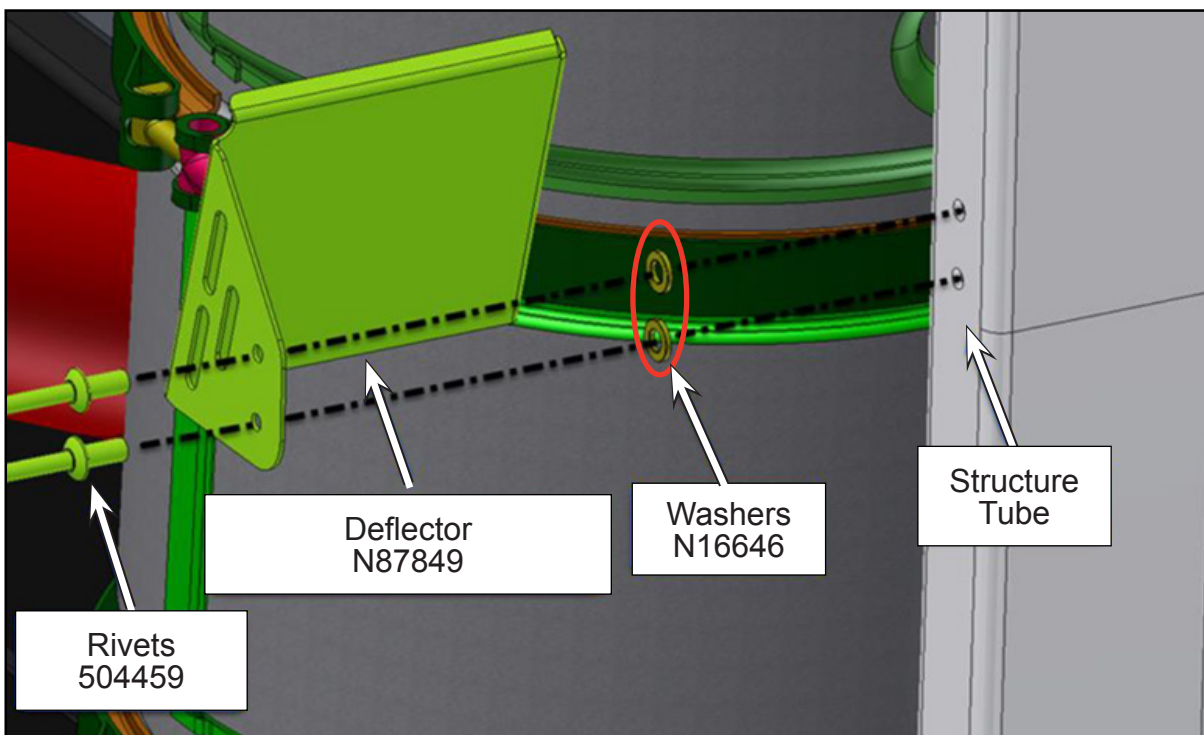

Figure 6 - Installation of Deflector
- 1.6. Install the deflector (see Figure 6).